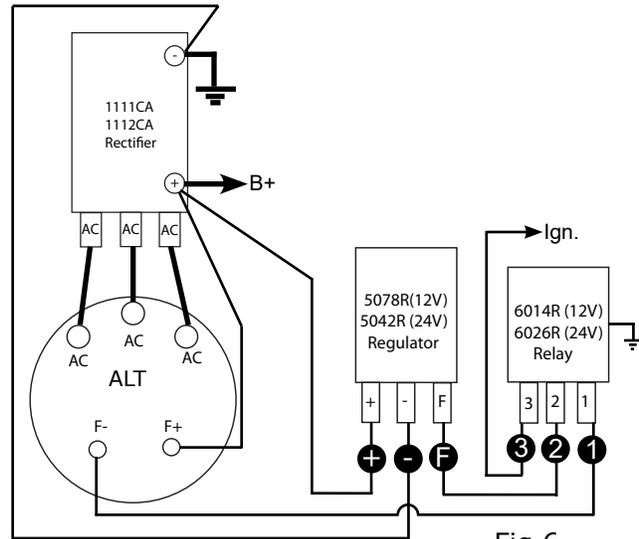

Fig 6
- 2) Identify and label vehicles wires connecting to voltage regulator and relay as indicated in Fig 6.
- 3) Remove ①, ②, ③ wires from relay and +, -, F wires from regulator terminals. Remove both regulator and relay from vehicle. Fig 6